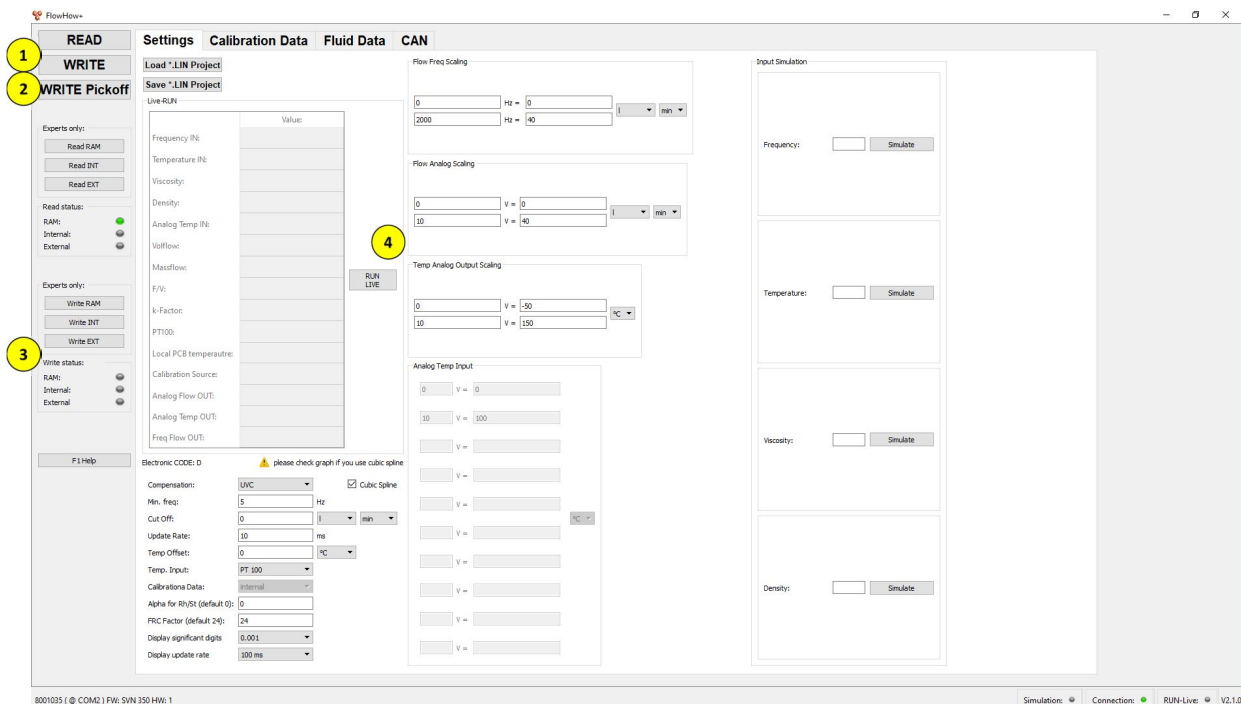

Fig. 17 Main programming screen
- Press "WRITE" button (1) to program the data onto the internal memory of the electronics. [Fig. 17]
- Press "WRITE Pickoff" button (2) to save the data to a SMART Pickoff (only available for Lysis!). [Fig. 17]
If the operation was successful, the corresponding status LED "Write Status" (3) lights up green. [Fig. 17]
- Press "Run Live" (4) button. [Fig. 17]